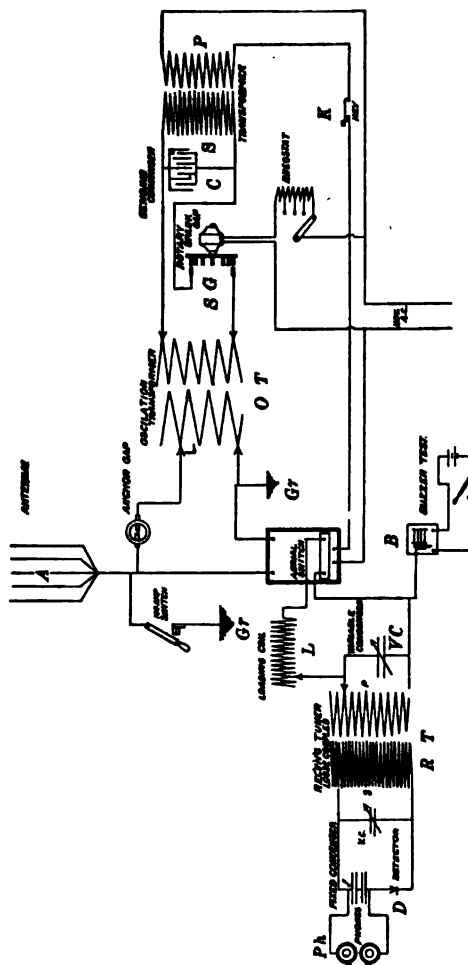

FIG. 416.—Diagram of a commercial wireless telegraph apparatus.
**417. Wireless Telegraphy.**—In 1894 Marconi, then a young man of twenty, while making some experiments with electrical discharges discovered that the coherer would detect electrical waves at a considerable distance from their source and that by the use of a telegraph key the “dots and dashes” of the telegraph code could be reproduced by a sounder attached to a relay. At present the coherer is used principally in laboratory apparatus, as much more sensitive detectors are now available for commercial work. The essential parts of a modern wireless telegraph apparatus as used in many commercial stations are shown in Fig. 416.